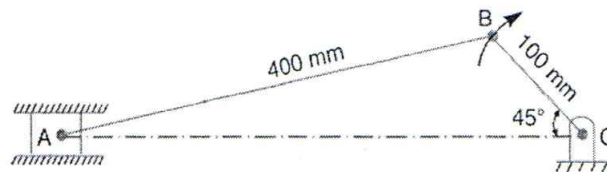

Fig.3b
- b) Locate all the instantaneous centers of the slider crank mechanism as shown in Fig 3b. The lengths of crank OB and connecting rod AB are 100 mm and 400 mm respectively. If the crank rotates clockwise with an angular velocity of 10 rad/s, find i). Velocity of the slider A, and ii). Angular velocity of the connecting rod AB. 12